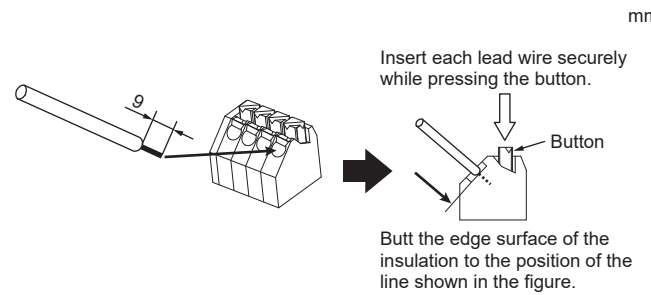

Fig. 5-12
- (1) Connect the wiring in accordance with the terminal block names to ensure correct polarity.
- (2) When using twisted wire for the wiring, the use of a round terminal is required. Take care when using stranded wires, because frayed wires may cause the wiring to short out.
- (3) Do not bundle the M-NET cable with the connection cable and power supply cable. It may cause erroneous operation.
- (4) How to connect the Power Supply Interface for Alarm Kit
- Press each button at the upper side on the terminal of the Power Supply Interface for Alarm Kit to open each wiring connection port and insert the lead wires until the core wire is hidden. (Fig. 5-12)